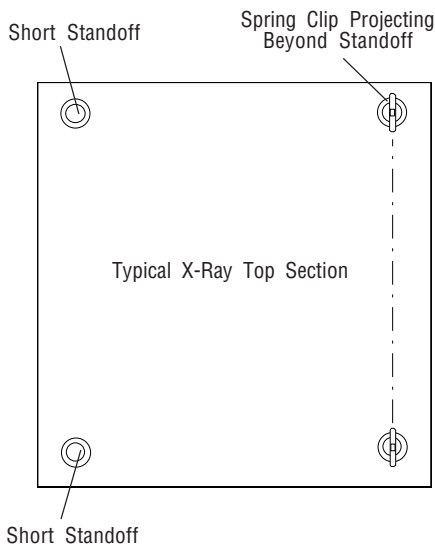

Figure 4-13. X-Ray Top Spring Clips and Standoffs
2. Rotate spacers so spring clips are in line when viewed from beneath tabletop (see Figure 4-13).